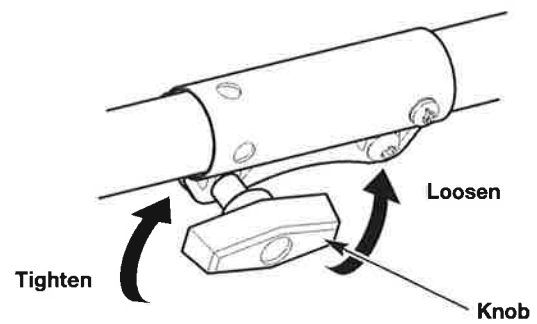

Fig. 4
3. Turn the knob counterclockwise to loosen the coupler (Fig. 4).
6. Turn the knob clockwise to tighten the coupler (Fig. 4).
2. Turn the knob counterclockwise to loosen the coupler (Fig. 4).